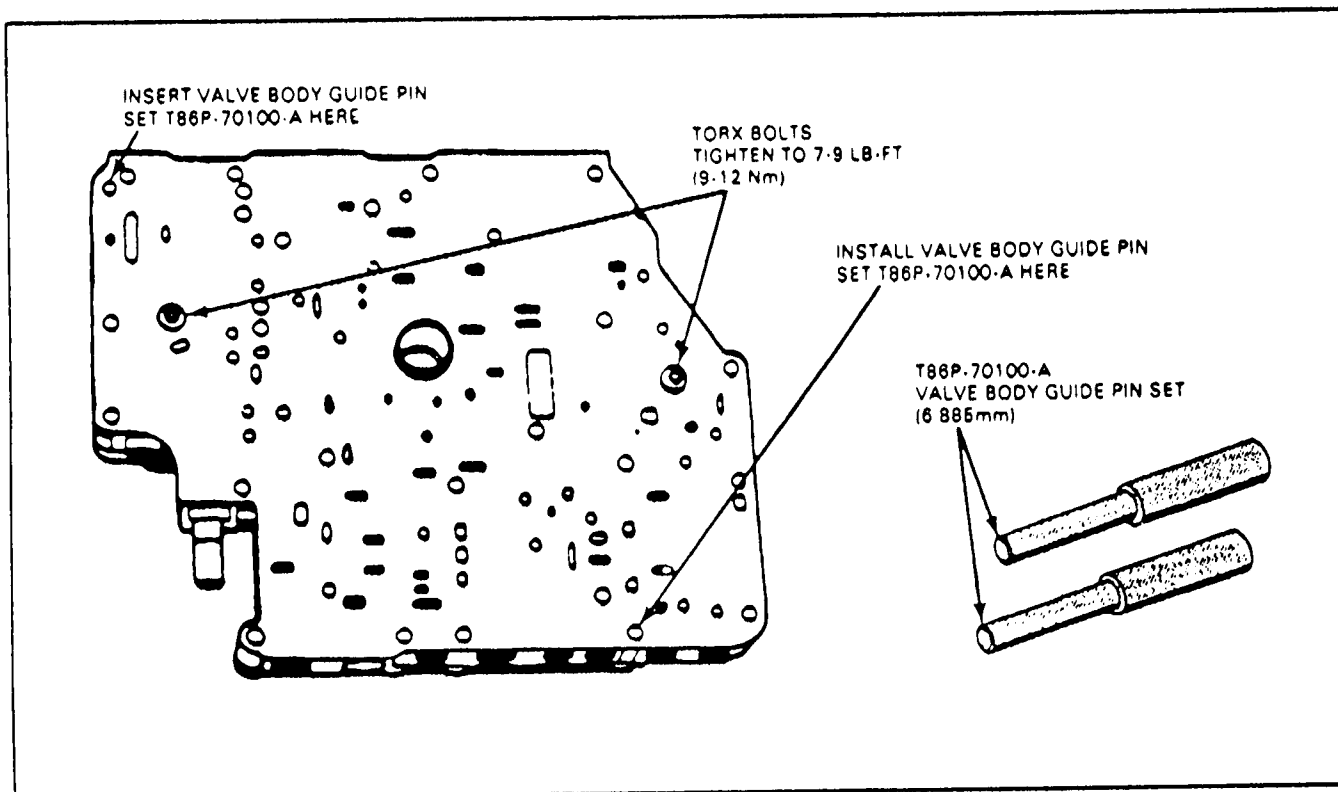

Figure 45
6. Insert two valve body guide pins T86P-70100-A (.271" Diameter), as shown in Figure 45.